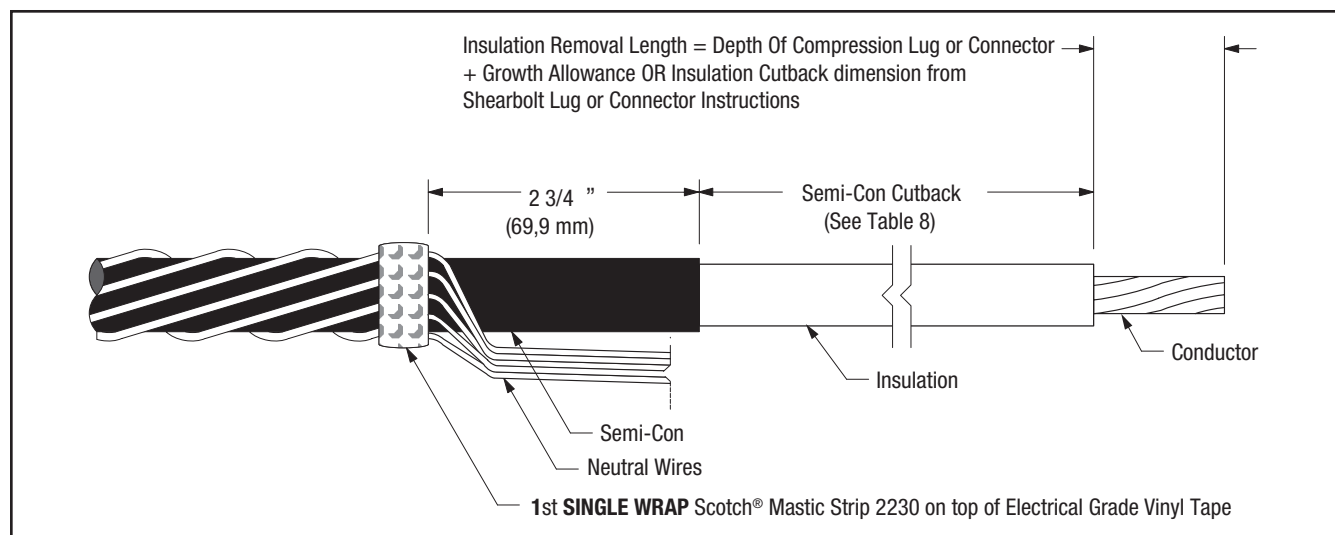

Figure 7
- Prepare cable using dimensions shown in Figure 7. **BE SURE TO ALLOW FOR DEPTH OF TERMINAL LUG OR CONNECTOR.** If using 3M Shearbolt Lugs QL2 Series: Two Hole, or 3M Mechanical Shearbolt Connector QCI Series, proceed to Step 6.4. If using a Crimp Type (Compression) lug, measure the depth of the barrel. If using a Crimp Type (Compression) connector, measure to the barrel center stop/midpoint, and see the NOTE below in order to calculate the Insulation Removal Length. Table 9 can be used to assist in calculating the total Jacket Removal Length when using a compression lug or connector.
- 6.5 Secure neutral wires to cable with several highly stretched layers of electrical grade vinyl tape around the cable and neutral wires 2 3/4" (69,9 mm) from cut edge of cable semi-con (Figure 7).
- 6.6 Select a Scotch® Mastic Strip 2230 from kit and remove white release liners. Using light tension, apply a **SINGLE WRAP** of mastic around the cable and neutral wires 2 3/4" (69,9 mm) from cut edge of cable semi-con, directly on top of vinyl tape (Figure 7). Cut off excess.